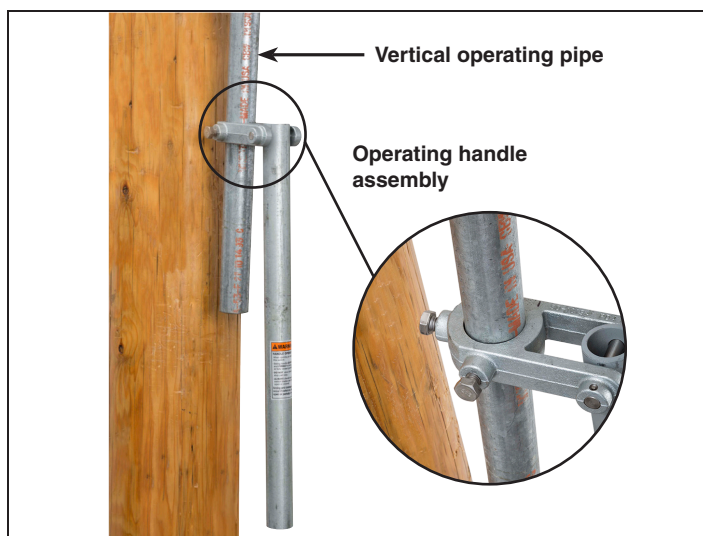

Figure 9. Install the operating-handle assembly.
STEP 13. Back the piercing set screws out of the handle yoke and slide the handle assembly up the pipe until it is in the location indicated on the erection drawing. There should be 6 to 8 inches of operating pipe below the operating-handle assembly. See Figure 9.